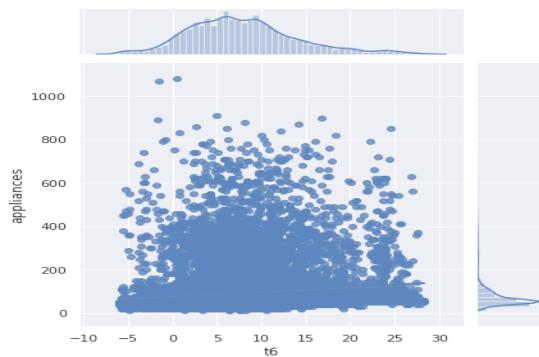

Fig 27
- Between Appliance and T6, as shown in fig 27